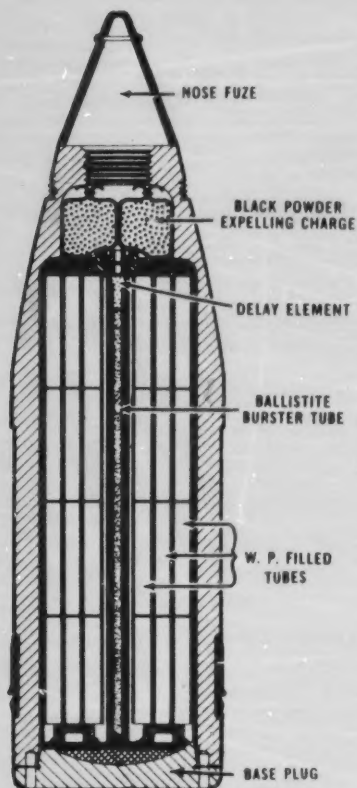

Figure 3-12.—Smoke (WP). 110.47.3
b. Chemical projectiles include a number of different types, depending on purpose—those with various types of war gases, and smoke projectiles. Smoke projectiles (one is shown in cross section in fig. 3-12) are by far the most common. They